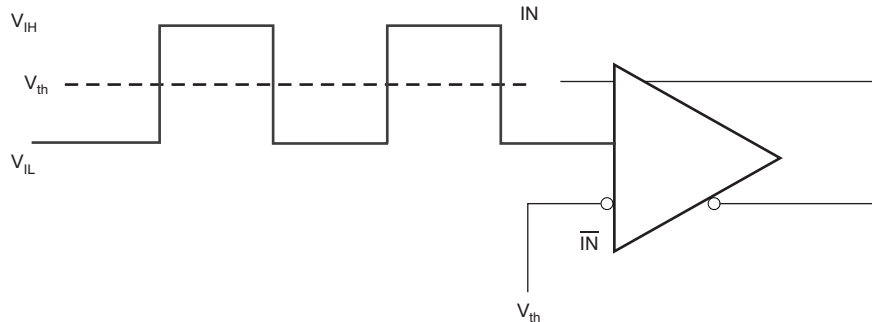
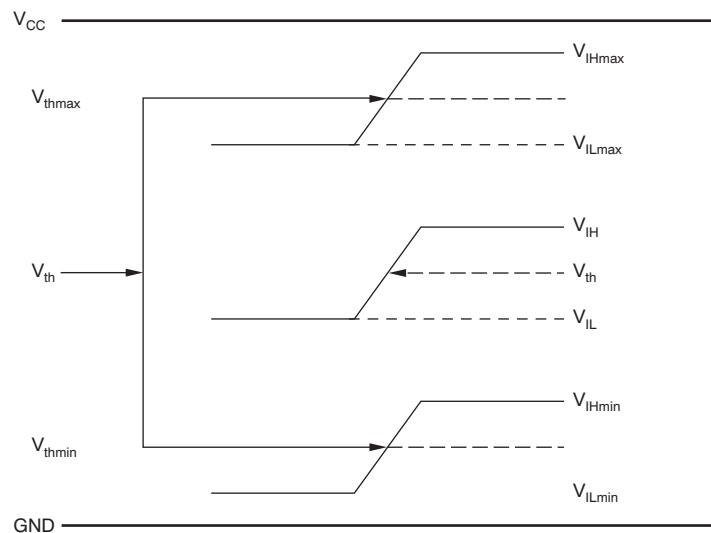

Figure 3. DC-Coupled LVCMOS Input During Device Test
Figure 4.  $V_{th}$  Variation over LVCMOS Levels
(1) Figure 3 and Figure 4 show dc test setup.
This section describes the function of each block for the CDCLVP1102. Figure 3 through Figure 9 illustrate how the device should be setup for a variety of test configurations.